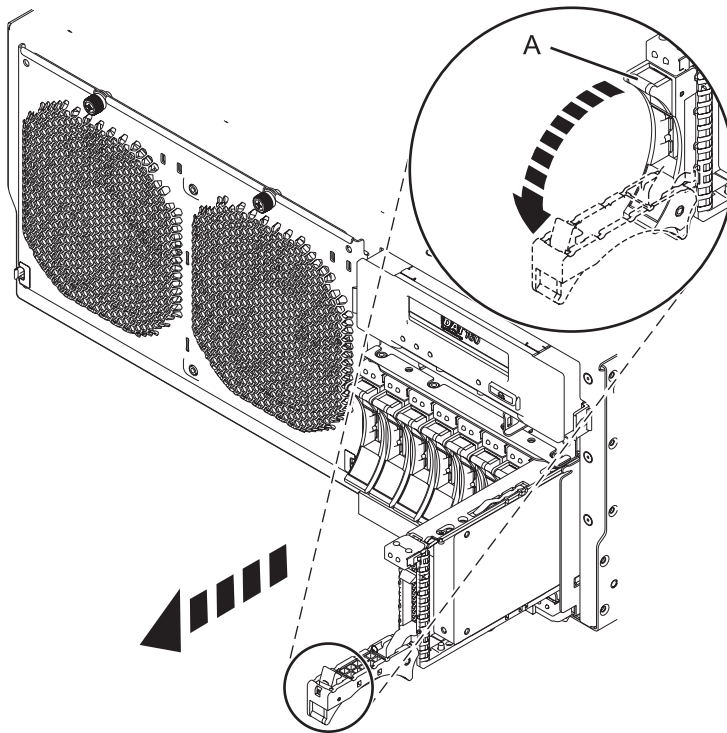

Figure 20. Removing a disk drive from the system
3. When the identify LED turns on solid, unlock the drive handle by squeezing it and pulling it out toward you, as shown in Figure 20 on page 35. If the handle is not all the way out, the disk drive or solid-state drive cannot slide out of the system or out of the expansion unit.